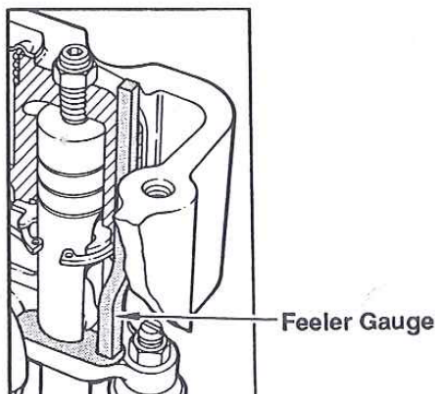

Fig. 4
2. Insert the correct feeler gauge between the crosshead and slave piston. See Fig. 4. Turn the slave piston adjusting screw (Auto-Lash) in until a slight drag is felt on the feeler gauge.